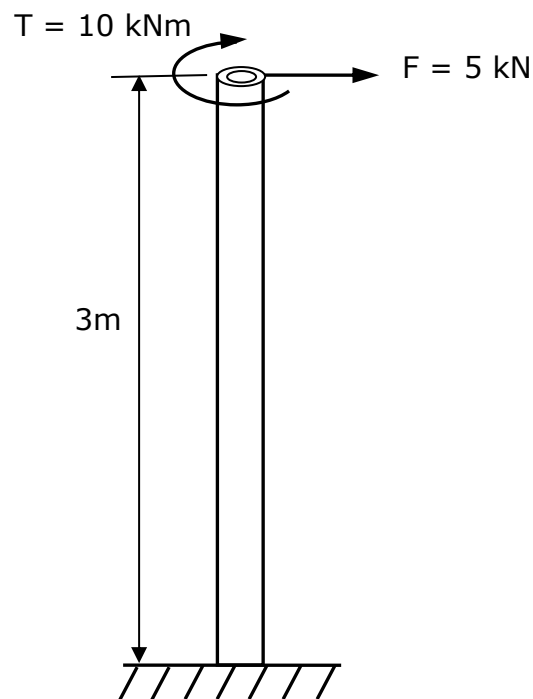

Fig. Q2
2. The support post for a street sign is subject to service conditions which create a bending load of 5 kN and a torsional load of 10 kNm at the top of the post, as shown in Fig. Q2. The post is made from a fibre reinforced composite ($E = 40$ GPa, $G = 15$ GPa), is 3 m high and has a hollow circular cross-section of outside diameter 220 mm and inside diameter 210 mm.